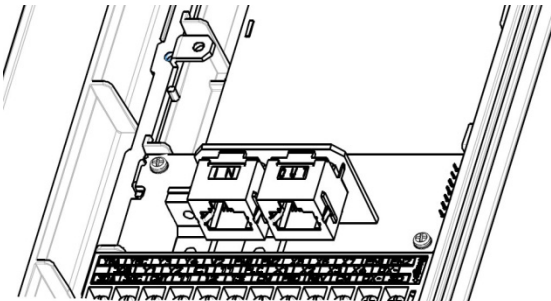

Figure 9: Interface Card Mounting Completed
4. Install the two M3 x 6mm screws included with the kit into the standoff mounting holes located at the upper-left and lower-right hand corners of the interface card. Tighten the screws to secure the interface card to the control board PCB. Refer to Figure 9.